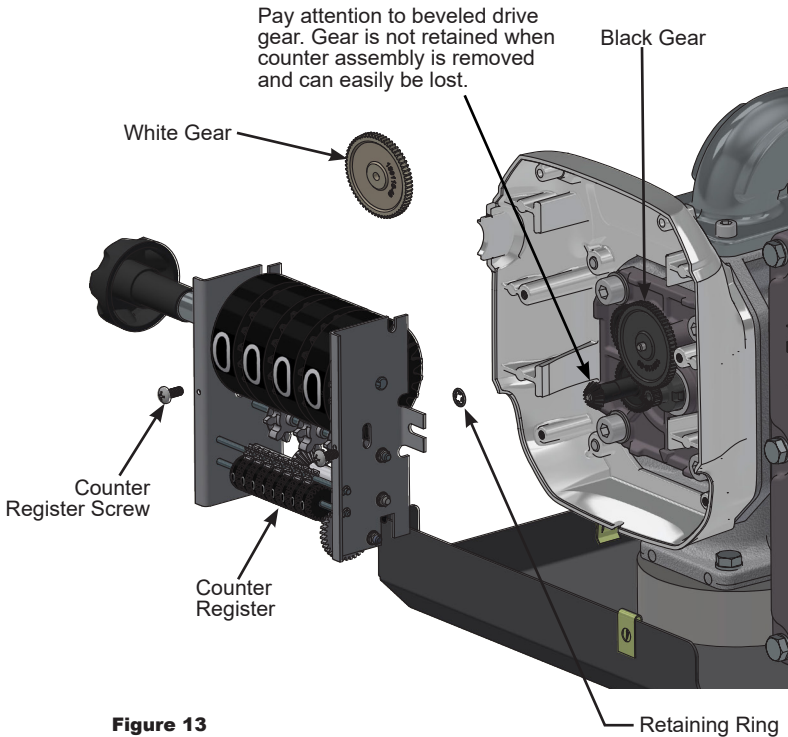

Figure 13
NOTE: The replacement gear is white for easy identification. Retain the black gear to change the meter back to a diesel calibration if needed (see Figure 13).
2. Using a Phillips screwdriver, remove the 2 counter register screws and counter register (see Figure 13).
2. Missing or worn bevel gear	2. Replace bevel gear (Fig 13)